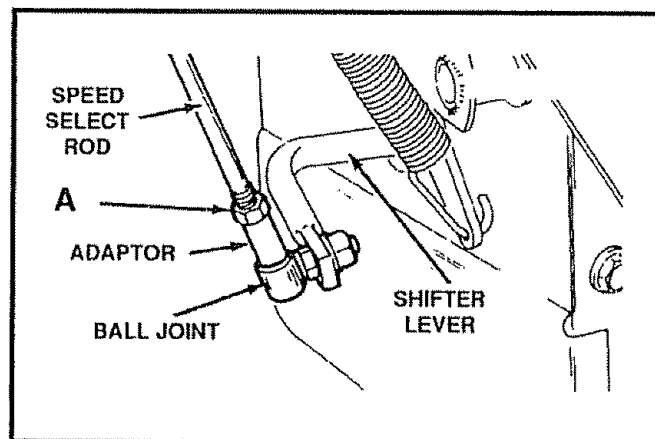

FIG. 34
- Loosen the jam nut "A" on the speed select rod. Remove the ball joint from the shifter bracket. Lengthen or shorten the rod by turning the adaptor to obtain the correct friction wheel position (See Fig. 34).